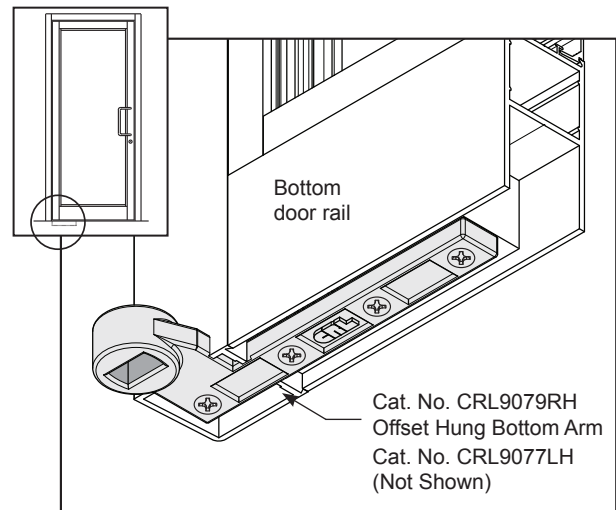
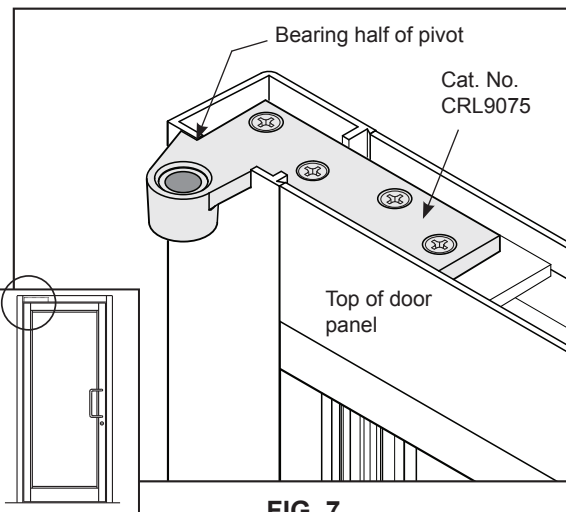
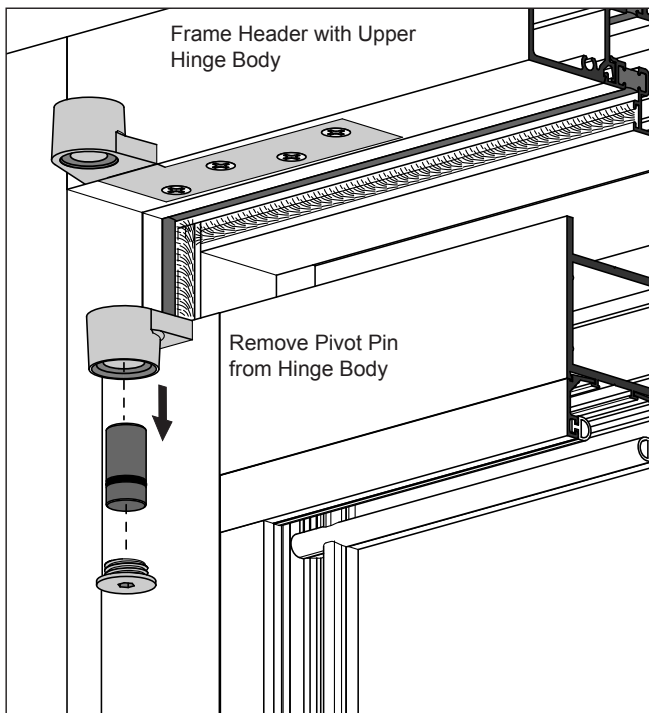

FIG. 6
FIG. 7
FIG. 8
3. Install the Offset Pivot Hardware into the door panel and door frame. Mortise the bottom Offset Pivot Arm into the Bottom Door Rail while keeping in mind the pivot center of the arm and it's alignment with the Spindle on the closer. (See Fig. 6 and 9) Do the same with the top door rail, mortise the bearing half of the Offset Pivot assembly. (Fig. 7) On aluminum doors, notching the Hinge Stile and Rails may be necessary to accommodate the pivot arms. Also, a spacer bar may have to be installed to build out the pivots. At the door frame Header, mortise the Pivot Half of the Offset Pivot assembly. Remove the Pivot Pin from the hinge body prior to installing the door. (Fig. 8)